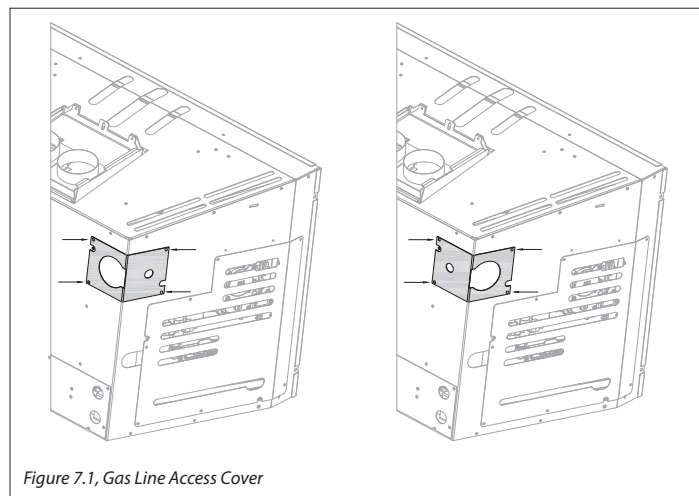

Figure 7.1, Gas Line Access Cover
1. Remove (4) screws securing the gas line access hole cover.
2. Follow Figure 7.1 for positioning the gas line access hole cover necessary for your installation.